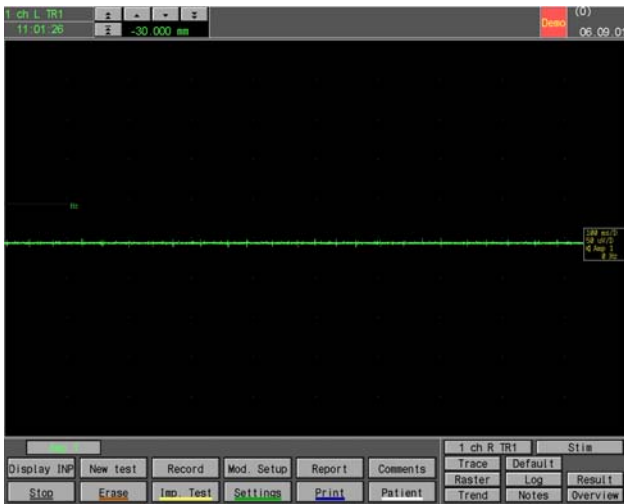

Figure 26 Full Screen Display of Trace Window
- Then click the "Full Screen Display" button that is situated in the topmost level in the second column to the left, and the selected window size appears, see Figure 26 below.